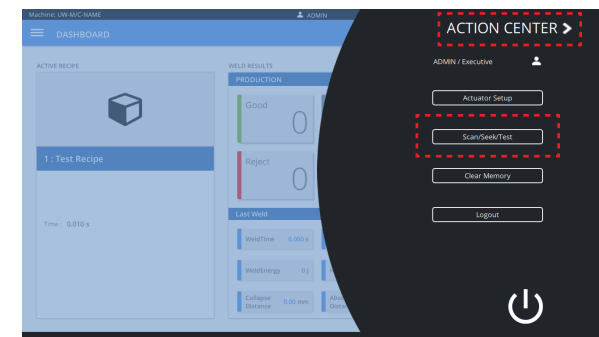

Figure 8: ACTION CENTER > SCAN/SEEK/TEST
1. Visit the ACTION CENTER (upper right corner), and select SCAN/SEEK/TEST (see Figure 8)